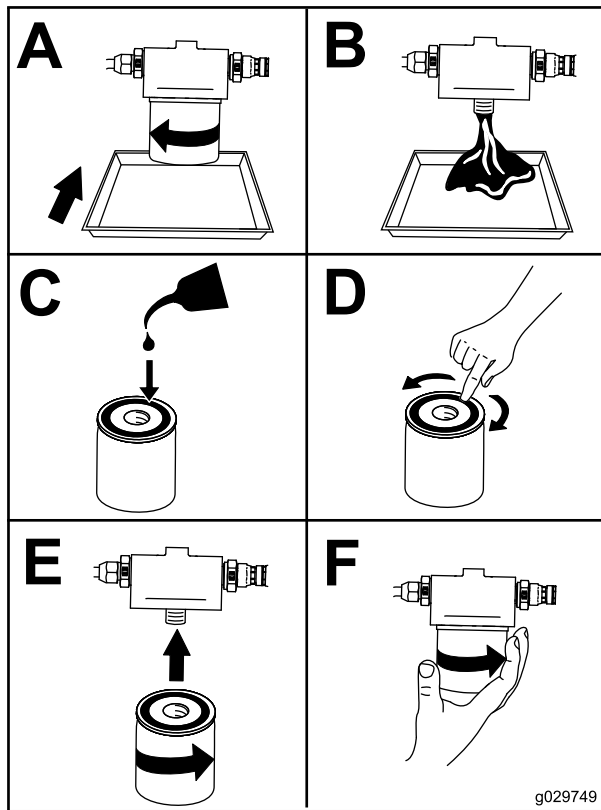

Figure 47
4. Change the oil filter (Figure 47).